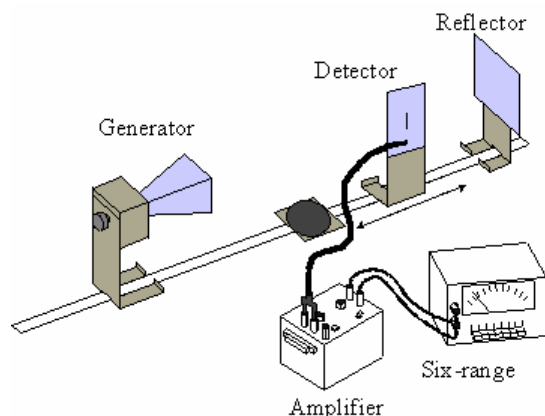

Fig. 4. Reflector placed by the probe detector.
The reradiated or reflected electric field will therefore have the same frequency and wavelength of the incident electric field. At certain distances along the path, the two fields will constructively interfere and produce a maximum signal in the detector probe, while at other locations they will destructively interfere and produce a minimum signal. This will occur, for example, between the detector and reflector in Fig. 4, which we will next investigate. The incoming field from the generator will be reflected from the metal plate and subsequently interfere with the incident wave. Certain positions of the reflector will therefore cause maximum and minimum voltages in the detector probe. We can use the positions of these maxima and minima to determine the wavelength of the electromagnetic field. It is useful to keep in mind the case of the taut string at both ends, although the physical process taking place is quite different with electromagnetic fields.
7. Move the generator and detector back to the 50 cm position. Place a reflector (solid flat piece of metal) behind the detector probe, as shown in Fig. 4. This will produce a standing wave between the generator and the reflector. Making sure to keep the probe at least 50 cm from the generator, slide the probe along the leg of the goniometer, and notice there are positions of maxima and minima signal strength. Slide the detector probe along the goniometer, no more than a cm or two, until you determine a maximum signal. Then slide the reflector, again no more than a cm or two, until you obtain another maximum signal strength. Continue making slight adjustments to the detector probe and reflector until the meter reading is as high as possible, but not pegging on the 10 V scale. If this occurs, move the generator back further away.